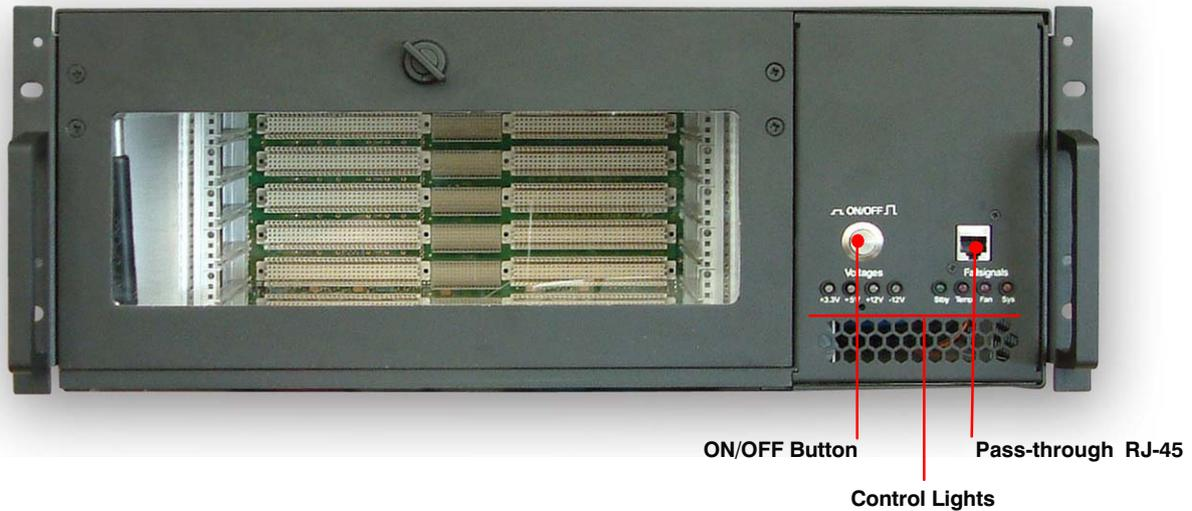

Figure 8: Front Control Panel
- *6U VME Boards Bay: Front* the front control panel is located on the right side of the front panel (refer to Figure 8).